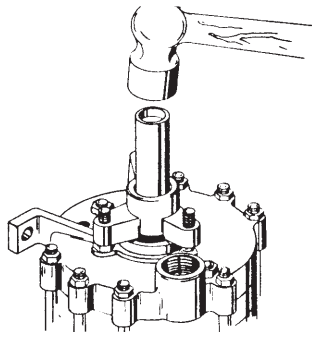

Figure 4-16
36. Place a metal support under the shaft opposite the extension. A 3/4" nut works well. The pump will be unstable in this position. It is well to have necessary tools at an easy reach. Install another (#6B) O-ring as before. Drive the bearing arm assembly onto the shaft until the bearing rests against the shoulder provided.(refer to figure 4-16) Driving should be done with a sleeve contacting the inner race only. Secure with three nuts (#20), finger tight.